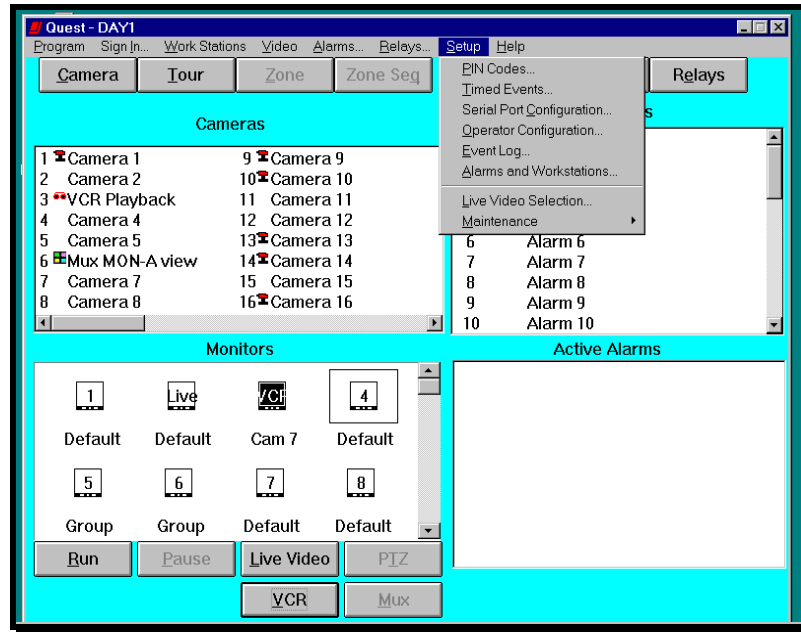

Figure 3-21. Setup Pull Down Menu
The Setup selection from the menu bar (Figure 3-21) is used to configure: (1) PIN Codes, (2) Timed Events, (3) Serial Port Configuration, (4) Operator Configuration, (5) Event Log (6) Alarms and Work Stations and (7) Live Video Selection.